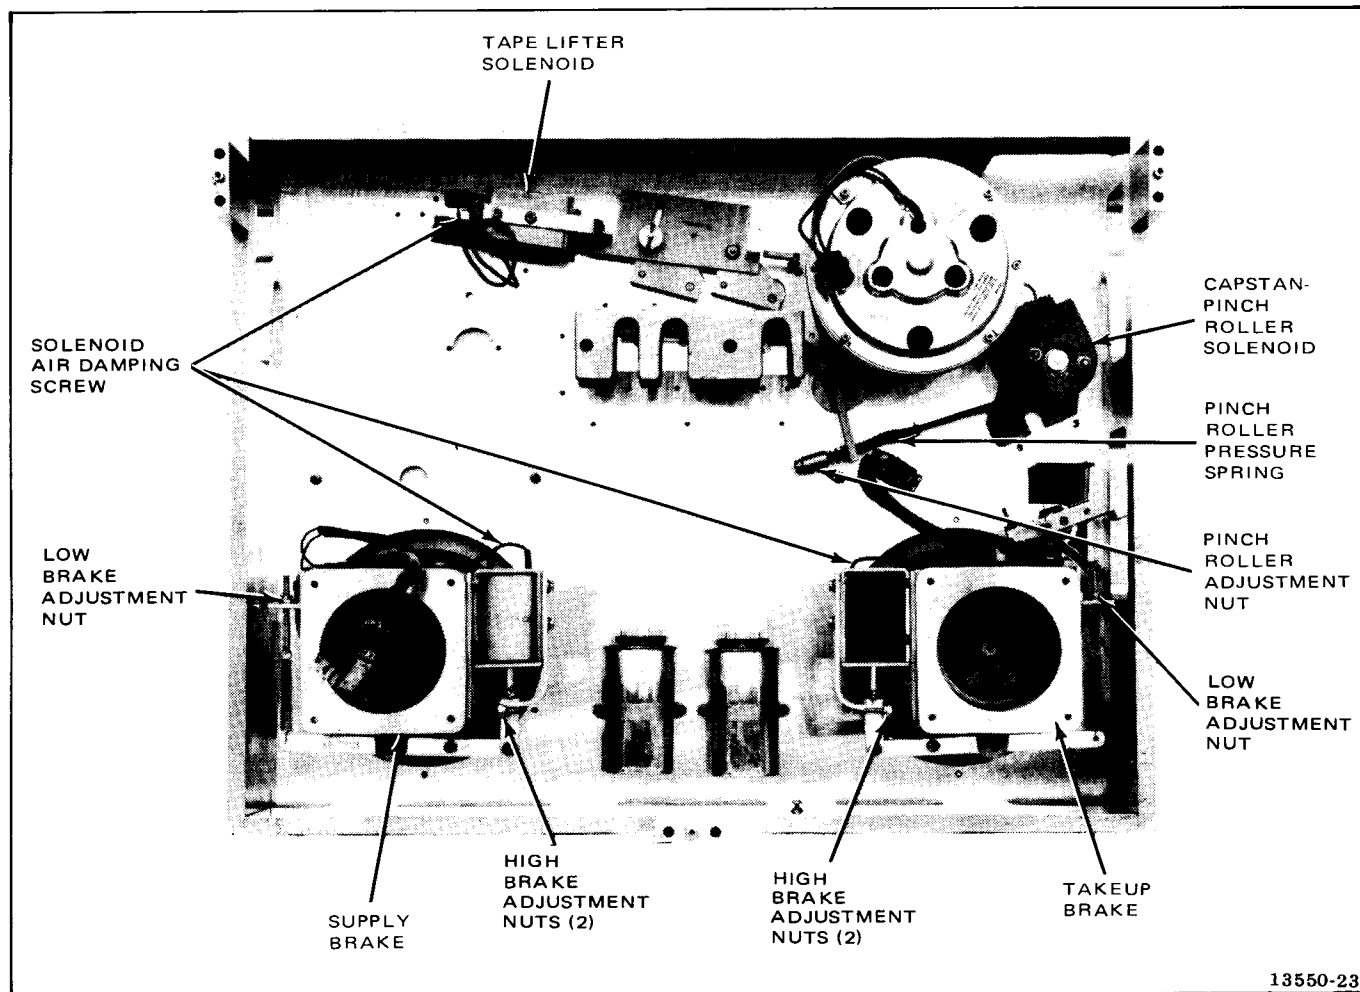
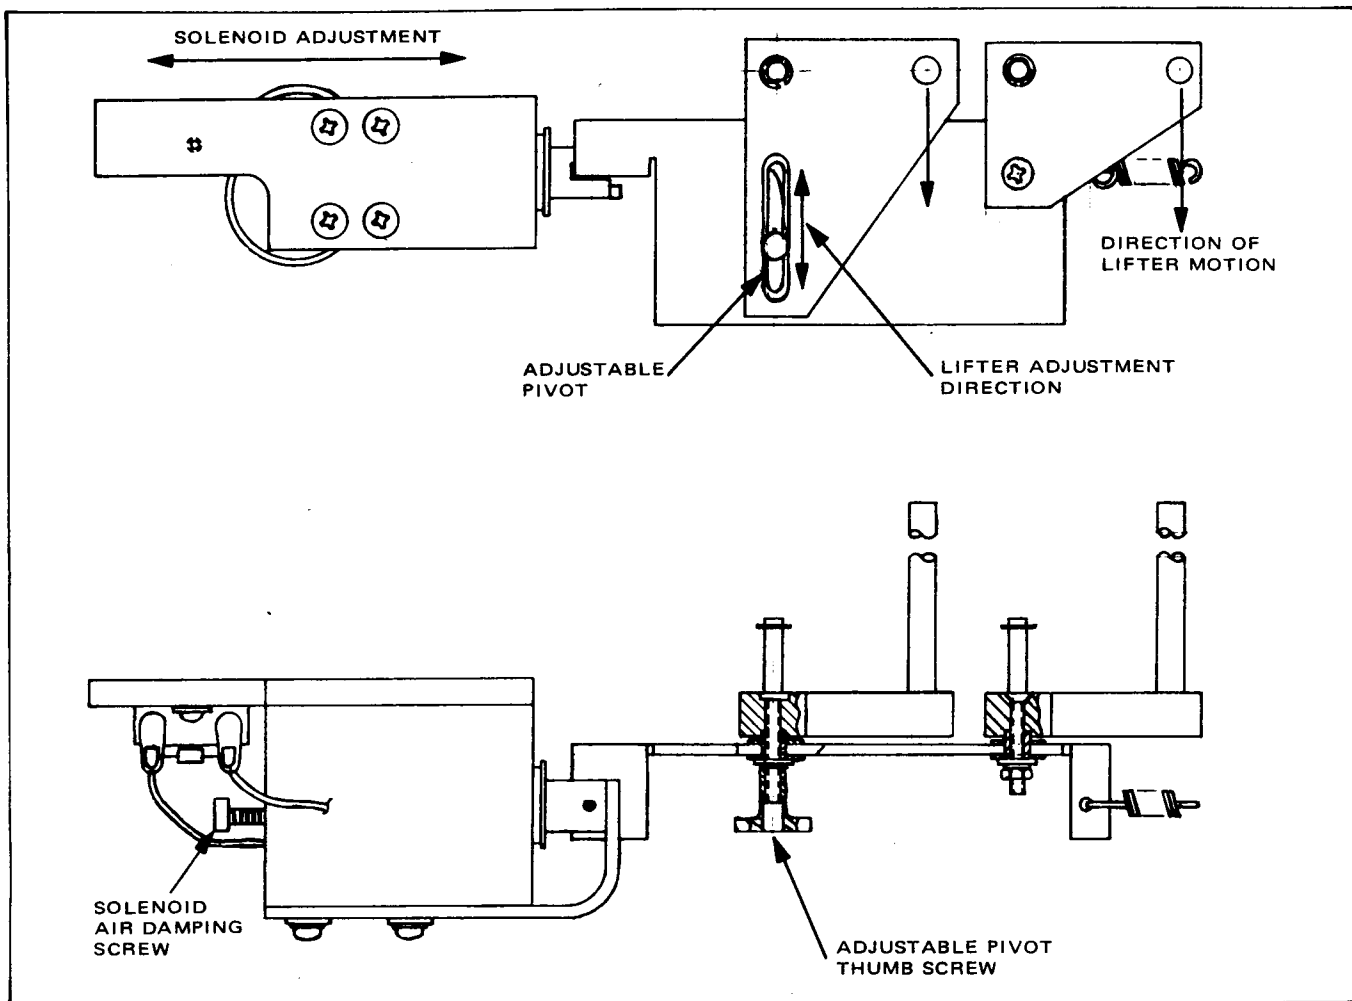

Figure 5-11. Transport Adjustment Points
Figure 5-13. Tape Lifter Adjustment
is removed while in any operating mode. A brake differential is necessary to maintain tension while stopping. The brake force is therefore higher for the tape feeding reel in every case. Each reel has a high brake adjustment (tape feeding) and a low brake adjustment (tape takeup). The locations of the adjustment nuts are shown in Figure 5-11; the tensions for high and low brake conditions are given in Table 5-2. Braking functions are checked and adjusted with power off and no tape installed.
7. Adjust the low brake adjustment nut (Figure 5-11) to increase or decrease brake tension as necessary. (Clockwise rotation of the brake adjustment nut increases brake tension.)
9. Rotate the high brake adjustment nut on either side of the takeup reel brake solenoid (Figure 5-11) to increase or decrease brake tension as necessary. (Clockwise rotation of the brake adjustment nuts increases brake tension.)
5-28. Brake Solenoid Air Damping. The brake solenoid air damping screw indicated in Figure 5-11 (similar to that shown in Figure 5-13 for the tape lifter) quiets the brake mechanism and controls the brake operating speed. The optimum setting is for the screw to be engaged three turns. However, quieter, but slower, operation may be achieved by turning the screw in. The screw may be removed for fastest operation.
5. Turn off the recorder/reproducer power and manually actuate the tape lifter solenoid and adjust its position left or right (see Figure 5-13) as necessary, such that the right-hand tape lifter arm moves the tape approximately 0.1 inch from the reproduce heads. Retighten the two cap screws and reinstall the tension sensor assembly cover.
6. With the tape lifter solenoid manually actuated, loosen the adjustable pivot thumbscrew (see Figure 5-13) and adjust its position such that the left-hand tape lifter arm moves the tape approximately 0.1 inch from the record heads, but so that the tape does not contact the erase heads.
5-32. Tape Lifter Solenoid Air Damping. The tape lift solenoid air damping screw shown in Figure 5-13 quiets the lifter mechanism and controls the lifter speed. The optimum setting is for the screw to be engaged three turns. However, quieter, but slower operation may be achieved by turning the screw farther in. The screw may be removed for fastest lifter operation.
The pinch roller force against the capstan is determined by the capstan pinch roller pressure spring. This force is adjusted by a locknut which compresses the pinch roller pressure spring as shown in Figure 5-11. Check and adjust the pinch roller pressure whenever the capstan motor has been moved or when any parts associated with the capstan pinch roller have been replaced.
1. Adjust the pinch roller pressure spring locknut under the transport (Figure 5-11) as